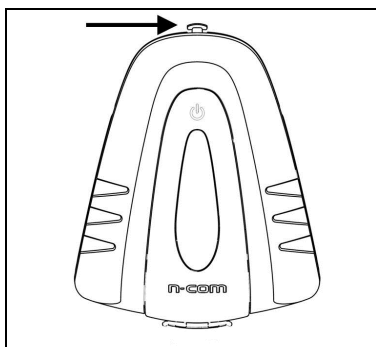

Fig. 6
- Make sure the safety block is properly listed, as shown in Fig. 6. If the safety block is closed, lift it as explained in the chapter entitled "Removal";